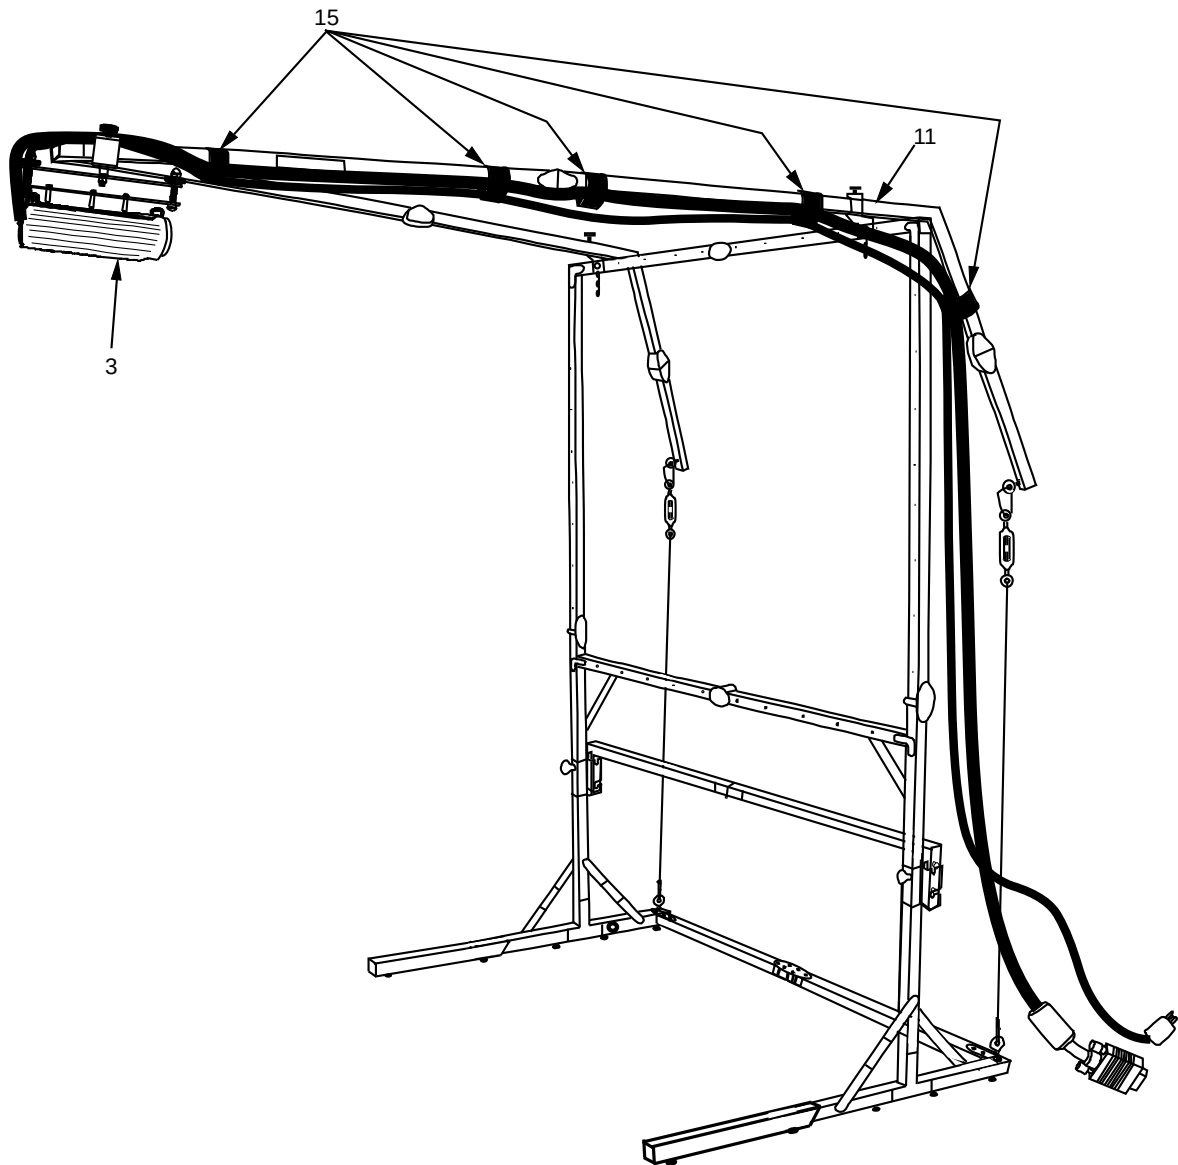

Figure 11. Attaching Power and Video Cables.
27. Attach power and video cables to Velcro straps (15) on projector support arm (11) (see Figure 11).